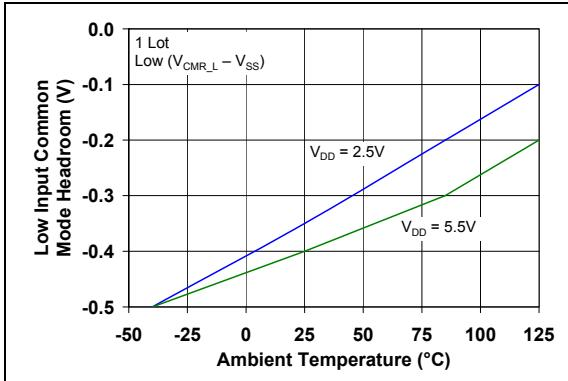

FIGURE 2-6: Low Input Common Mode Voltage Headroom vs. Ambient Temperature.
- 3: See Figure 2-6 and Figure 2-7 for temperature effects.